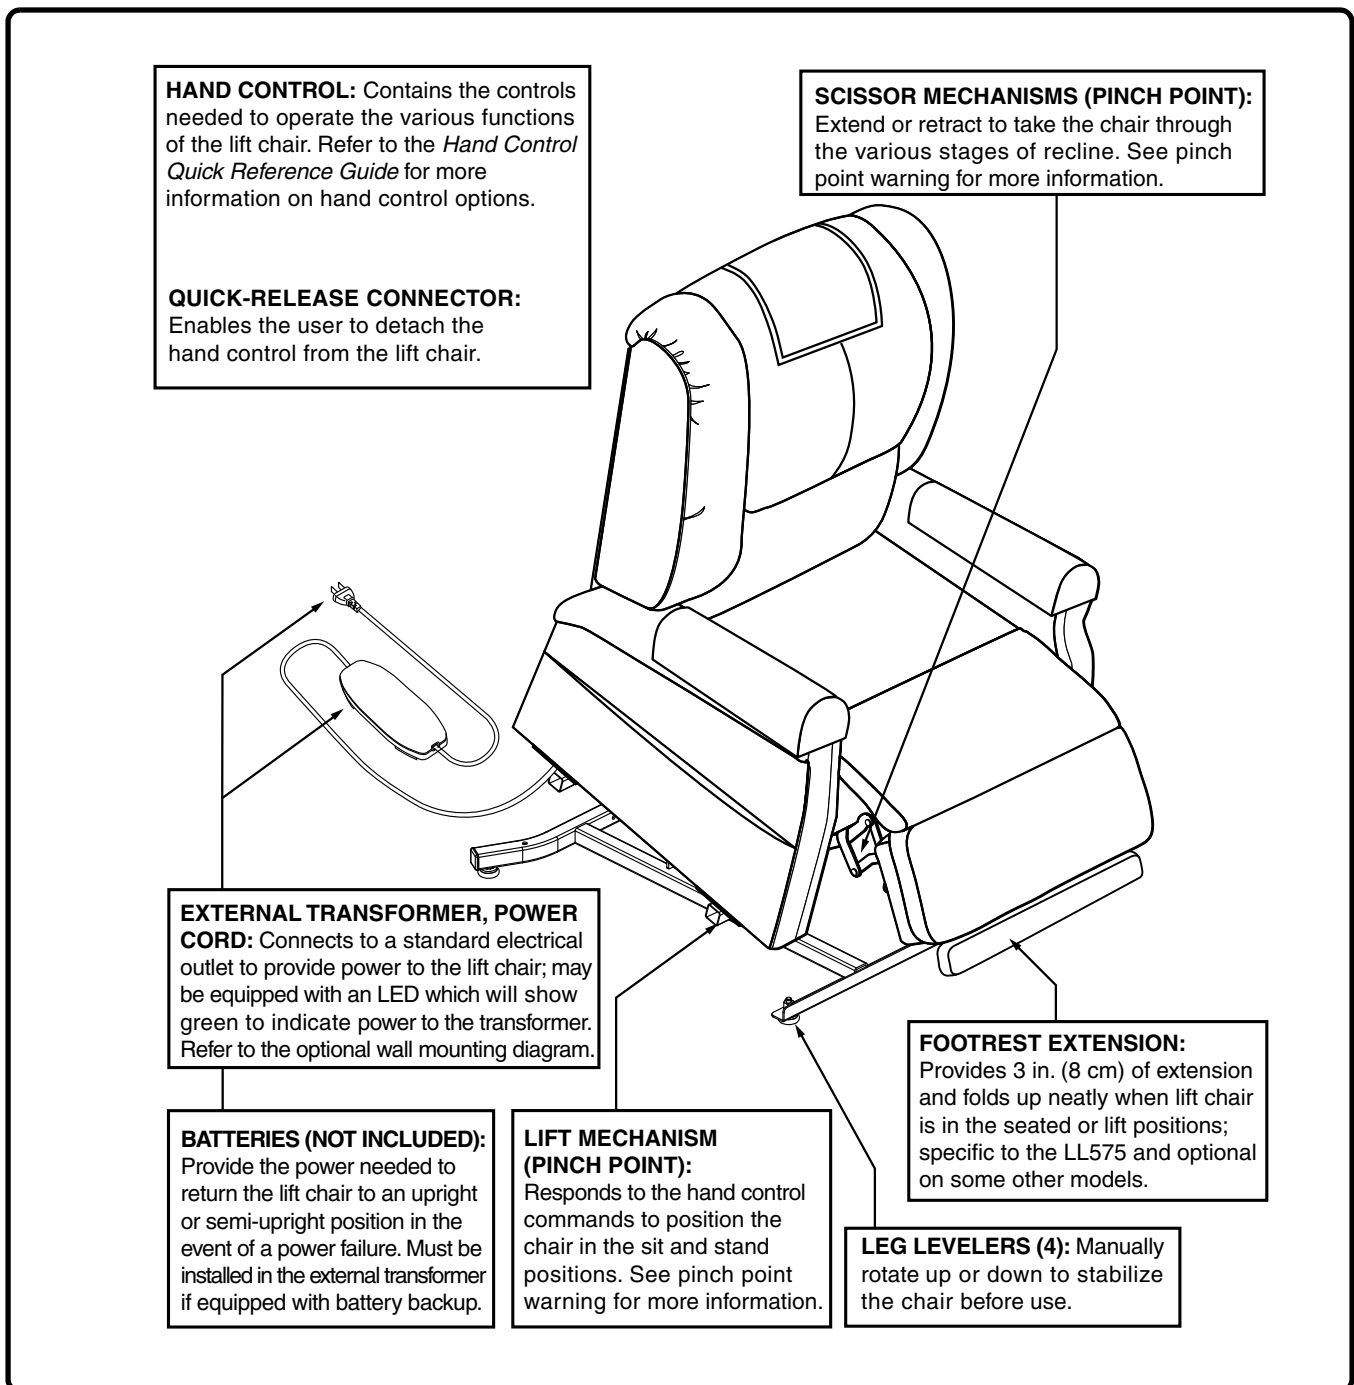

Figure 3.1 Lift Chair Main Components
The scissor and lift mechanisms are labeled as pinch/crush point hazards on your lift chair. Keep clear of these areas and make sure the path of motion is unobstructed. See **figure 3.1** for pinch/crush point locations.
Lift chairs are equipped with several frame and electrical components. Typically, frame (or body) components include a removable back pad*, removable chaise pad*, footrest, leg levelers, a lift mechanism, and scissor mechanisms. The electrical components include the external transformer, hand control, and batteries‡(not included). Refer to **figure 3.1** and note that the illustrations and options listed may not reflect the type of lift chair that you own.
2. Adjust the leg levelers to stabilize the lift chair (**Fig. 3.1**).